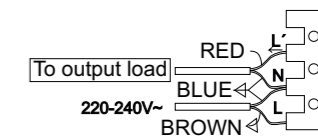

Fig. 10
- 3.5.1** Study the wiring diagram below before making any electrical connections. Incorrect wiring of the unit could destroy the sensor (fig. 10).